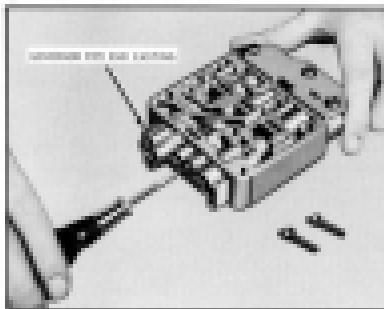

Fig. 429. Removing Pressure Pipe End Casting
5. Remove three screws holding pressure pipe end casting to valve body (using a small screw driver) and remove pressure pipe end casting, and separator. (Fig. 429)